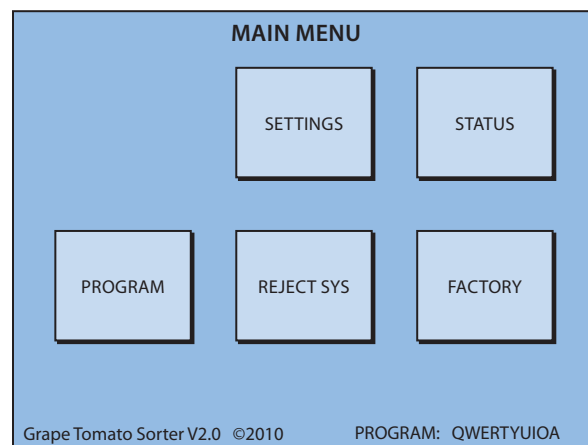
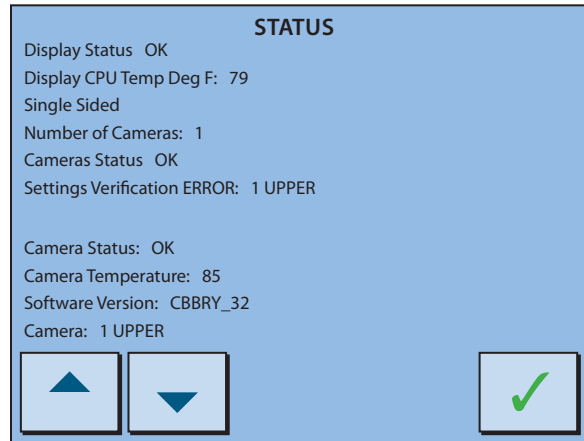
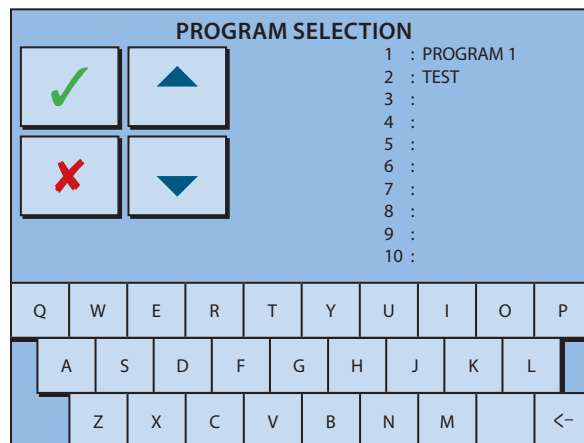

Figure 1.1
Figure 2.0
Figure 3.0
The main menu (*figure 1.1*) provides access to all of the following sub systems except **FACTORY** which is for a WECO service technician only.
Pressing the **STATUS** option button from the main menu (figure 1.1) provides the screen displayed above (figure 2.0). This screen gives important information as to the overall health of the sorters computer systems. On a 48" sorter with one optical tube it is possible to scroll through all six (6) cameras. Please note: There are two (2) cameras on the cross reject conveyor. Pushing the up or down arrows will scroll through the cameras and the **Camera Status** should show "OK."
If an **ERROR** (as demonstrated in figure. 2.0) is present:
2. From the main menu press **PROGRAM** (figure 1.1). From this screen press the green check mark (✓) in the upper left hand corner of the screen (figure 3.0) to refresh sorter setting.
To access this screen press **PROGRAM** from figure 1.1.
Program Selection (figure 3.0) allows the user to set up several different sort setting to quickly change from one program to another. Changes in tomato varieties, weather conditions and tomato fields may require different settings. As conditions change throughout the season, additional programs can be added.